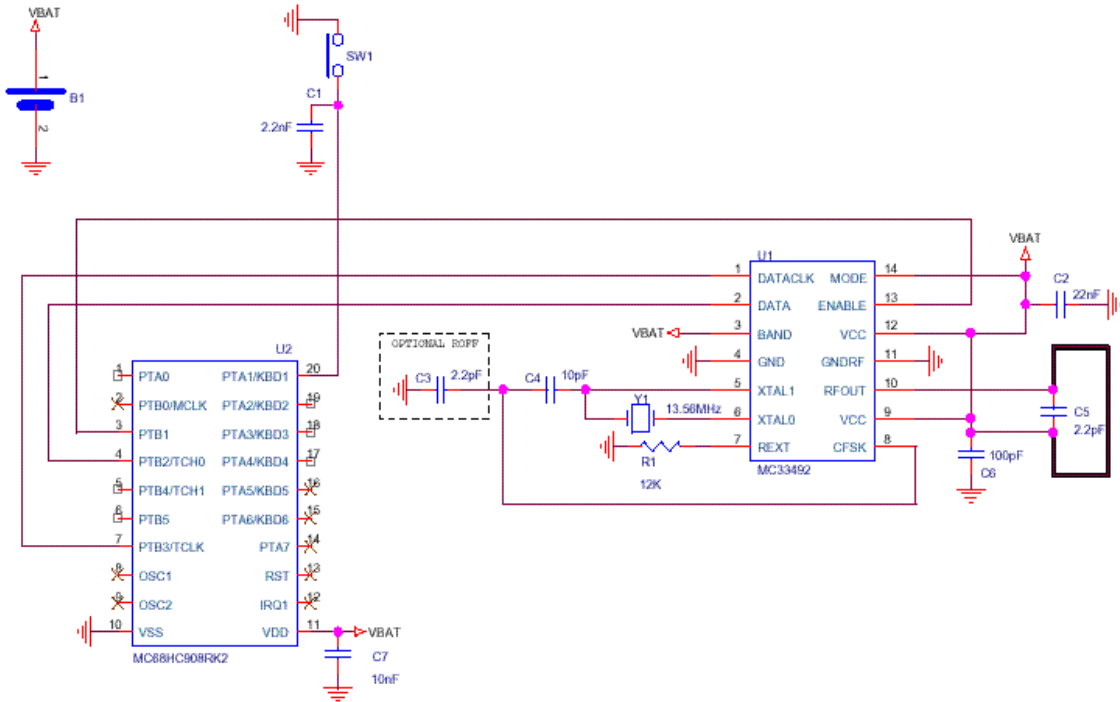

Figure 14. Application Schematic for FSK Modulation, Serial Configuration, 434 MHz Frequency Band
Figure 14 shows a complete application schematic using a MC68HC908RK2 microcontroller. FSK modulation is selected,  $f_{\text{carrier}} = 433.92 \text{ MHz}$ .  $C_1$  capacitor can be removed if switch debounce is done by software.
- the external load capacitors (C3, C4 as defined in Figure 14 and Table 9)